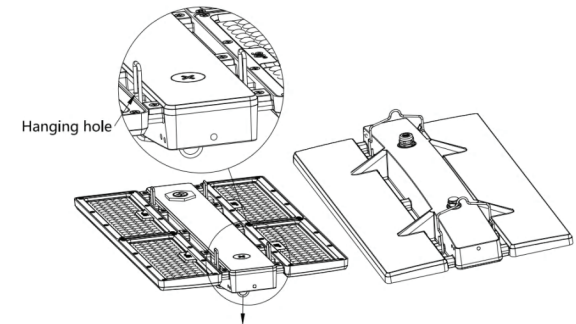

Figure 2
2. Securely attach the Suspended Chains to the ceiling then attach chains into the luminaire hooks (**Figure 2**).